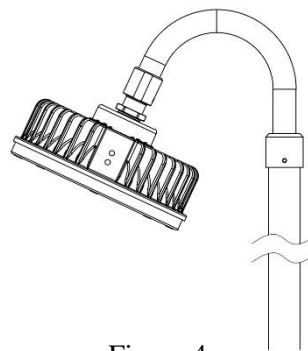

Figure 4
- ☞ The mounting types are for the use of Bending electrical tube mounting (Figure 4). Tube mounting thread is NPT 1-1/2"
- ☞ Tighten tube locking set screw to conduit 1.0 N-m. (Figures 4 and 5)